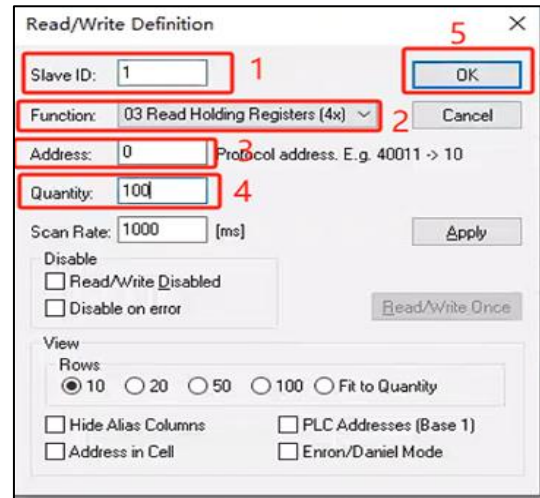

Figure 2
- Read/Write Definition (As shown in figure 2)
■ Read/Write Definition (As shown in figure 2)